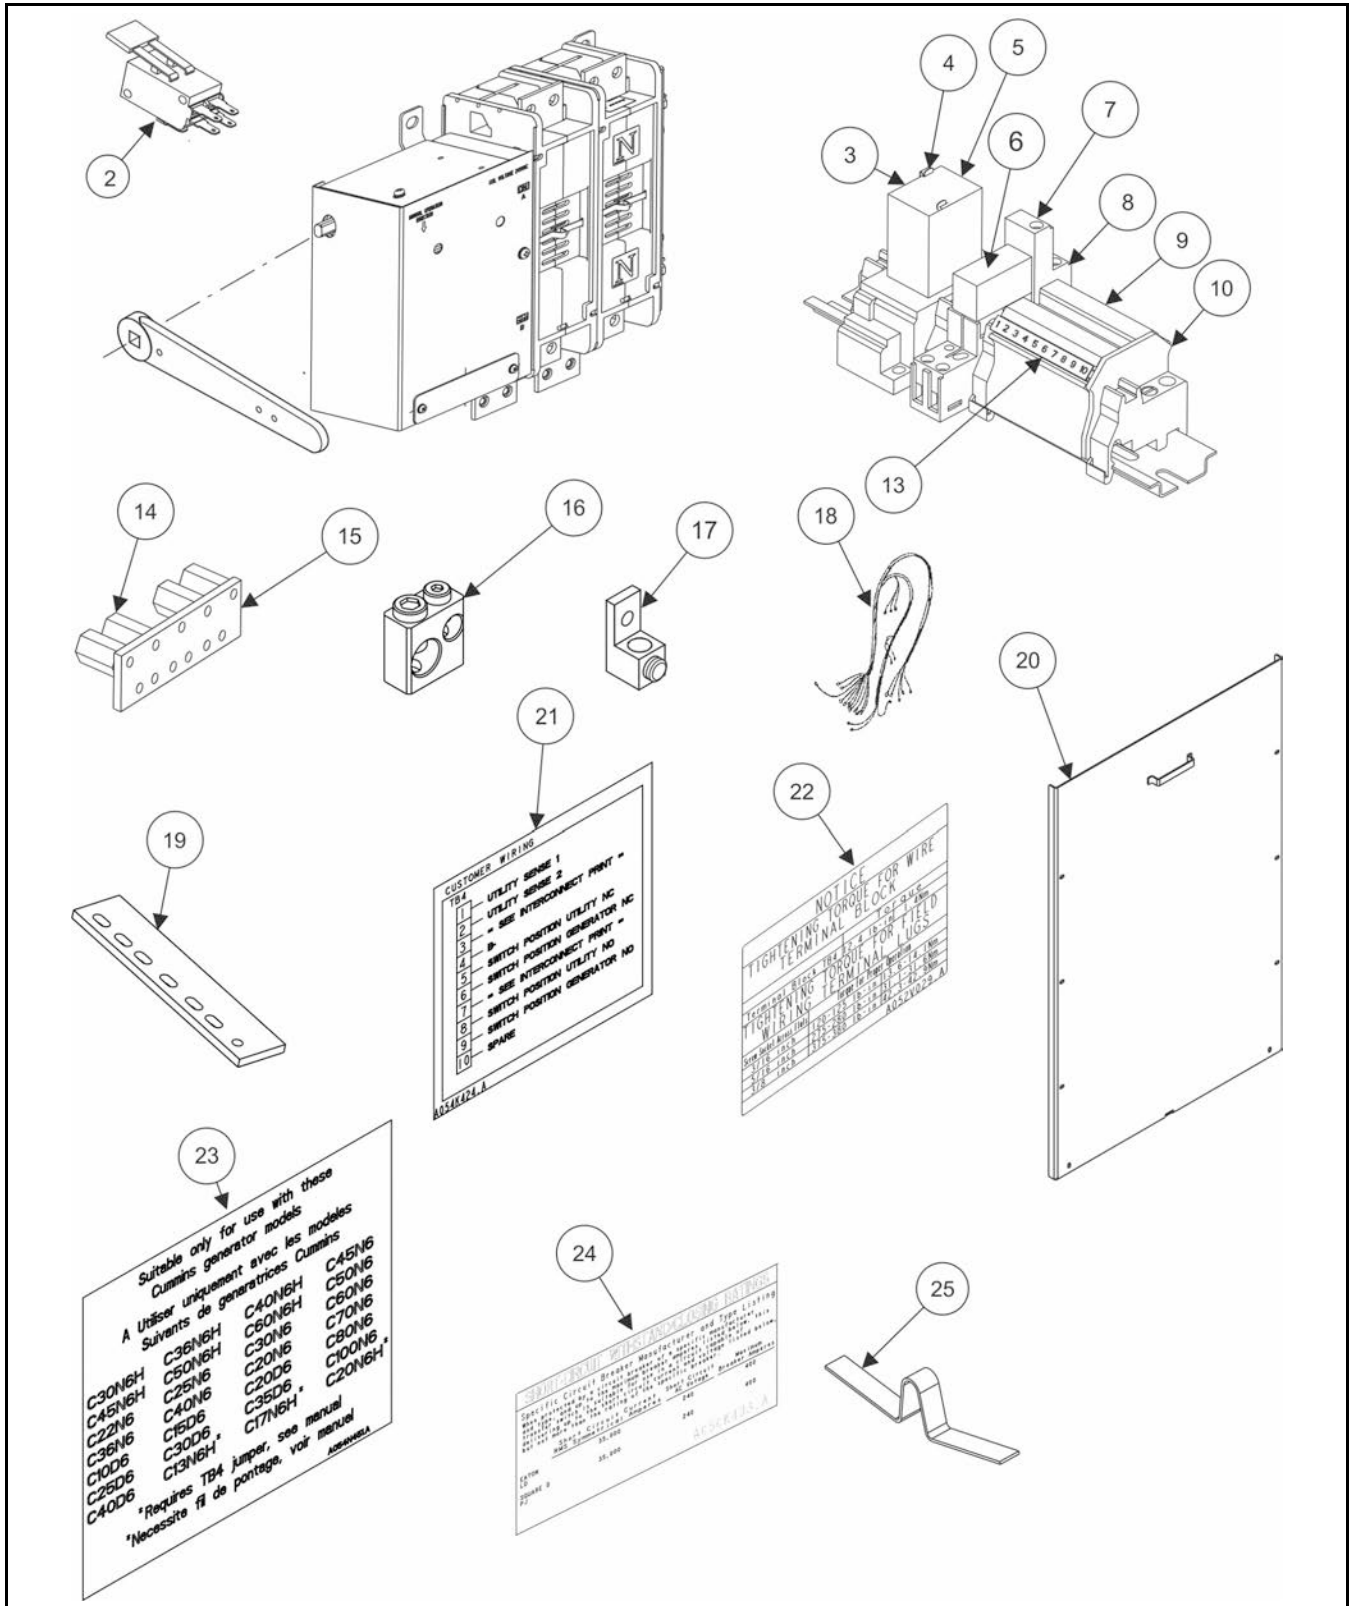

FIGURE 37. RA SERIES 400A NON-SERVICE ENTRANCE MODELS
- Figure 37. RA Series 400A Non-Service Entrance Models 70